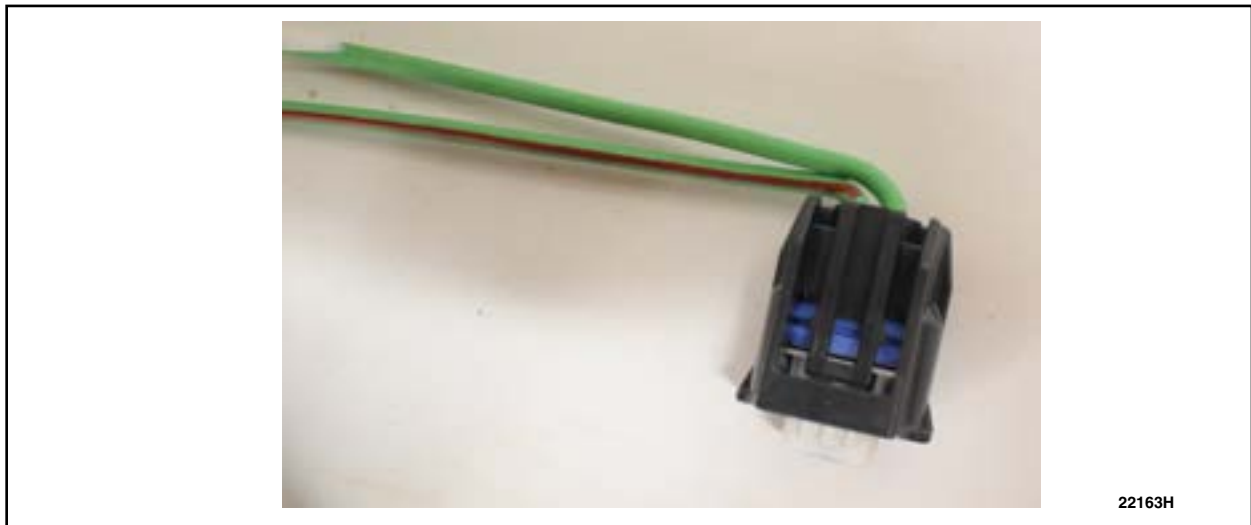

FIGURE 8
11. Before installing the *new* connector, it is recommended to bend the wires at the connector so that the clip will seat better to the *new* connector. See Figure 8.